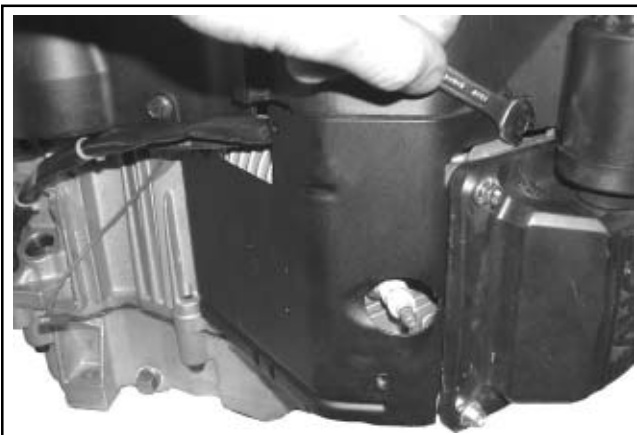

Figure 9-23. Removing Outer Baffles.
4. Remove the outer baffles. See Figure 9-23.